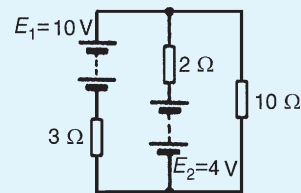
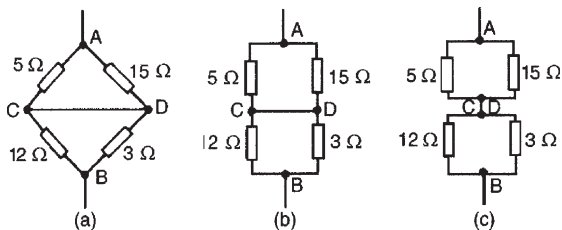

Figure 13.27
Figure 13.35
3. Use the superposition theorem to find the current in each branch of the network shown in Fig. 13.27.
- (viii) In Fig. 13.35(a), to find the equivalent resistance across  $AB$  the circuit may be redrawn as in Figs 13.35(b) and (c). From Fig. 13.27(c), the equivalent resistance across  $AB$